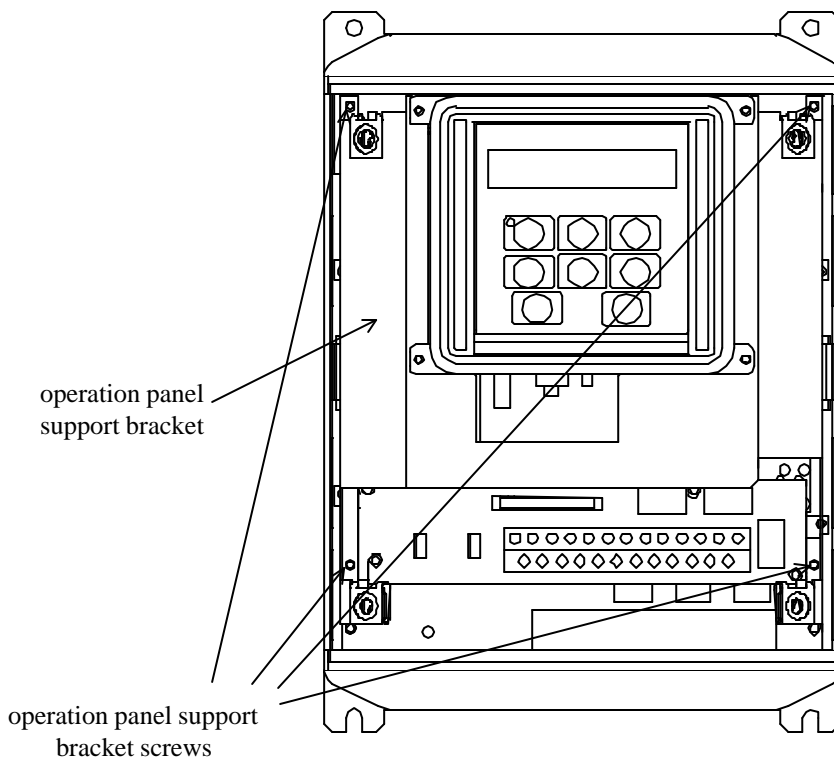

Figure 1: *E3 with front cover removed*
4. Loosen the 4 screws attaching the E3's operation panel support bracket to the control board support bracket, and then remove the operation panel and support bracket as a unit (refer to Figure 1).